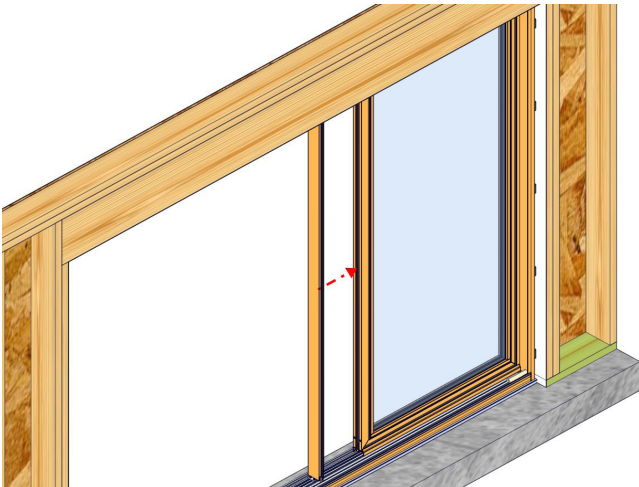

Fig. 25a
1. Slide the pre-assembled meeting rail against the fixed panel and install using supplied (MH8-18X1/2 TK2) screws in the head and sill L-angle brackets. (Fig. 25a)